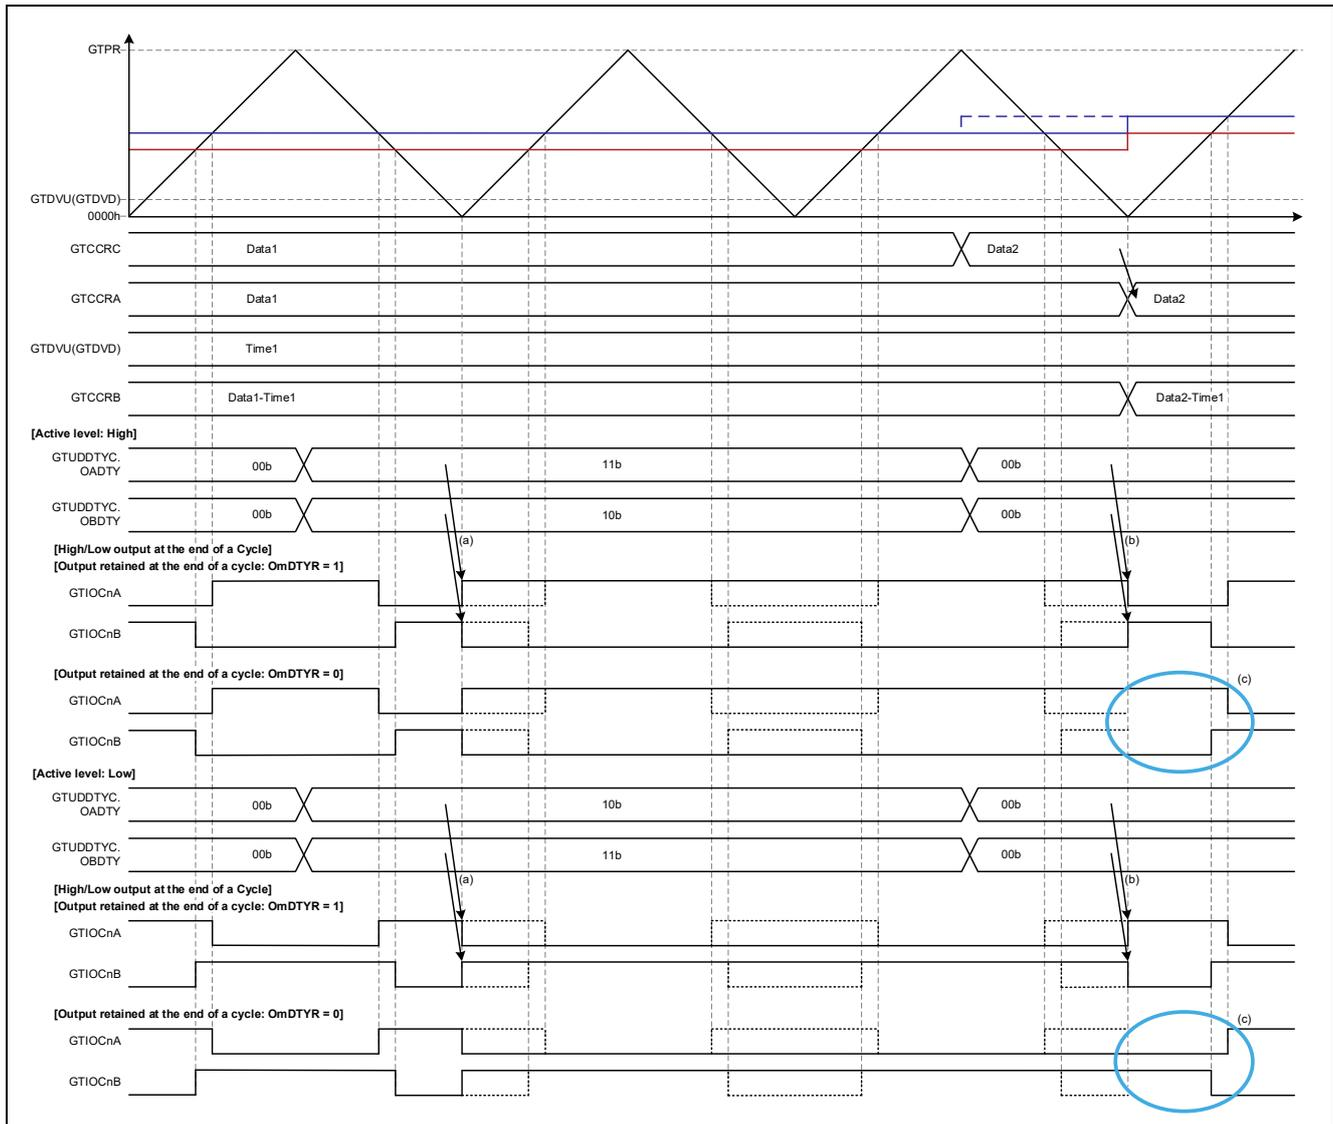
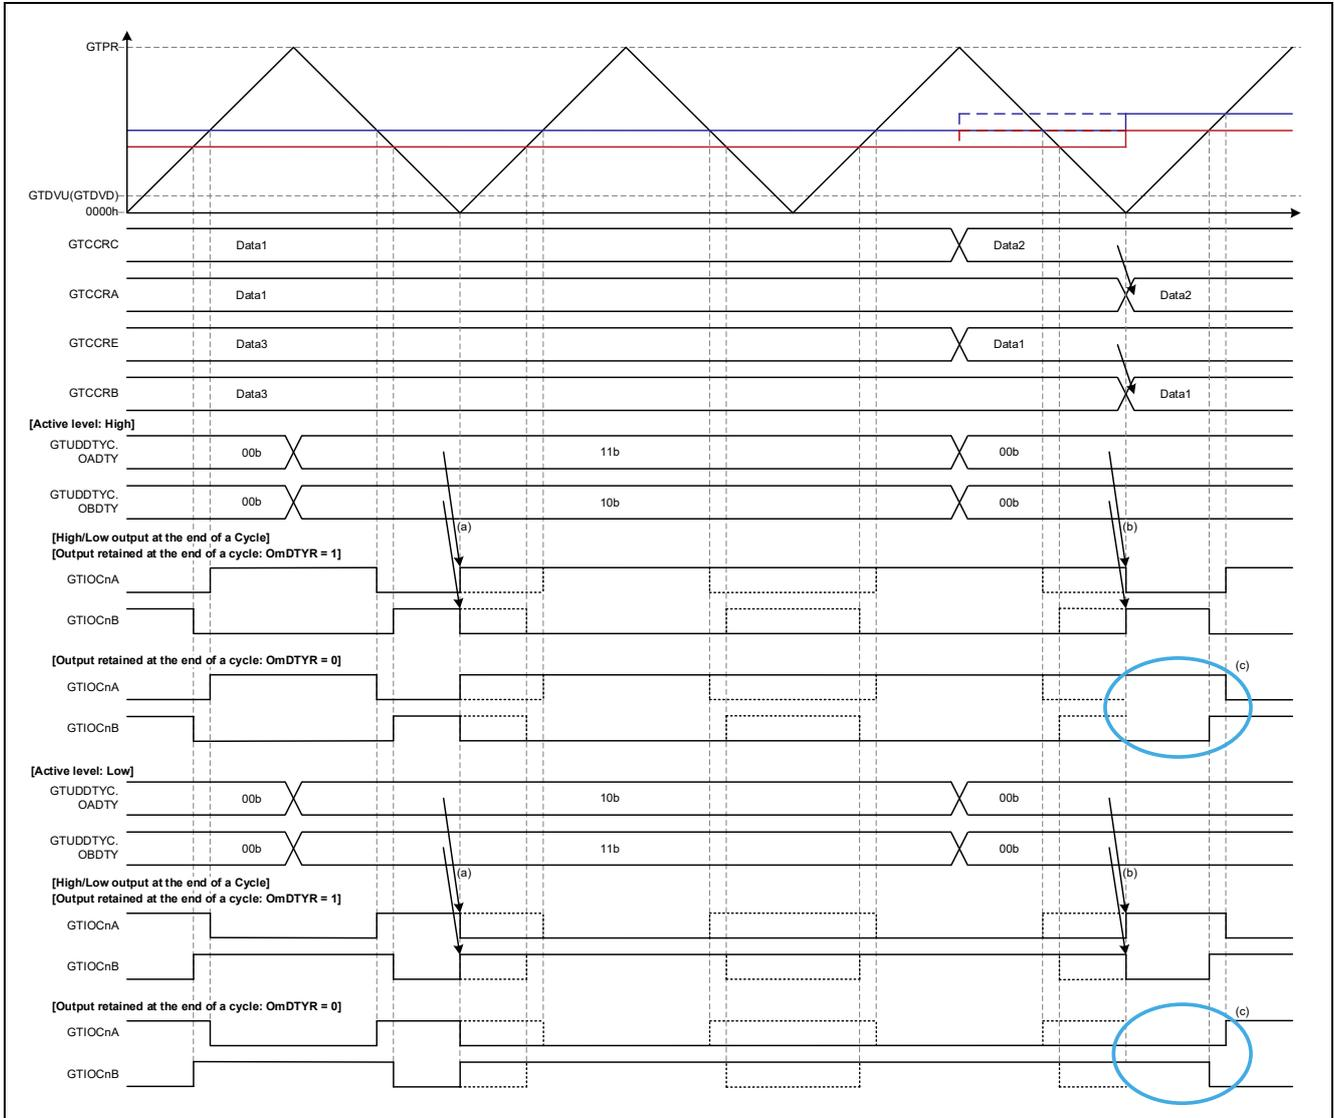
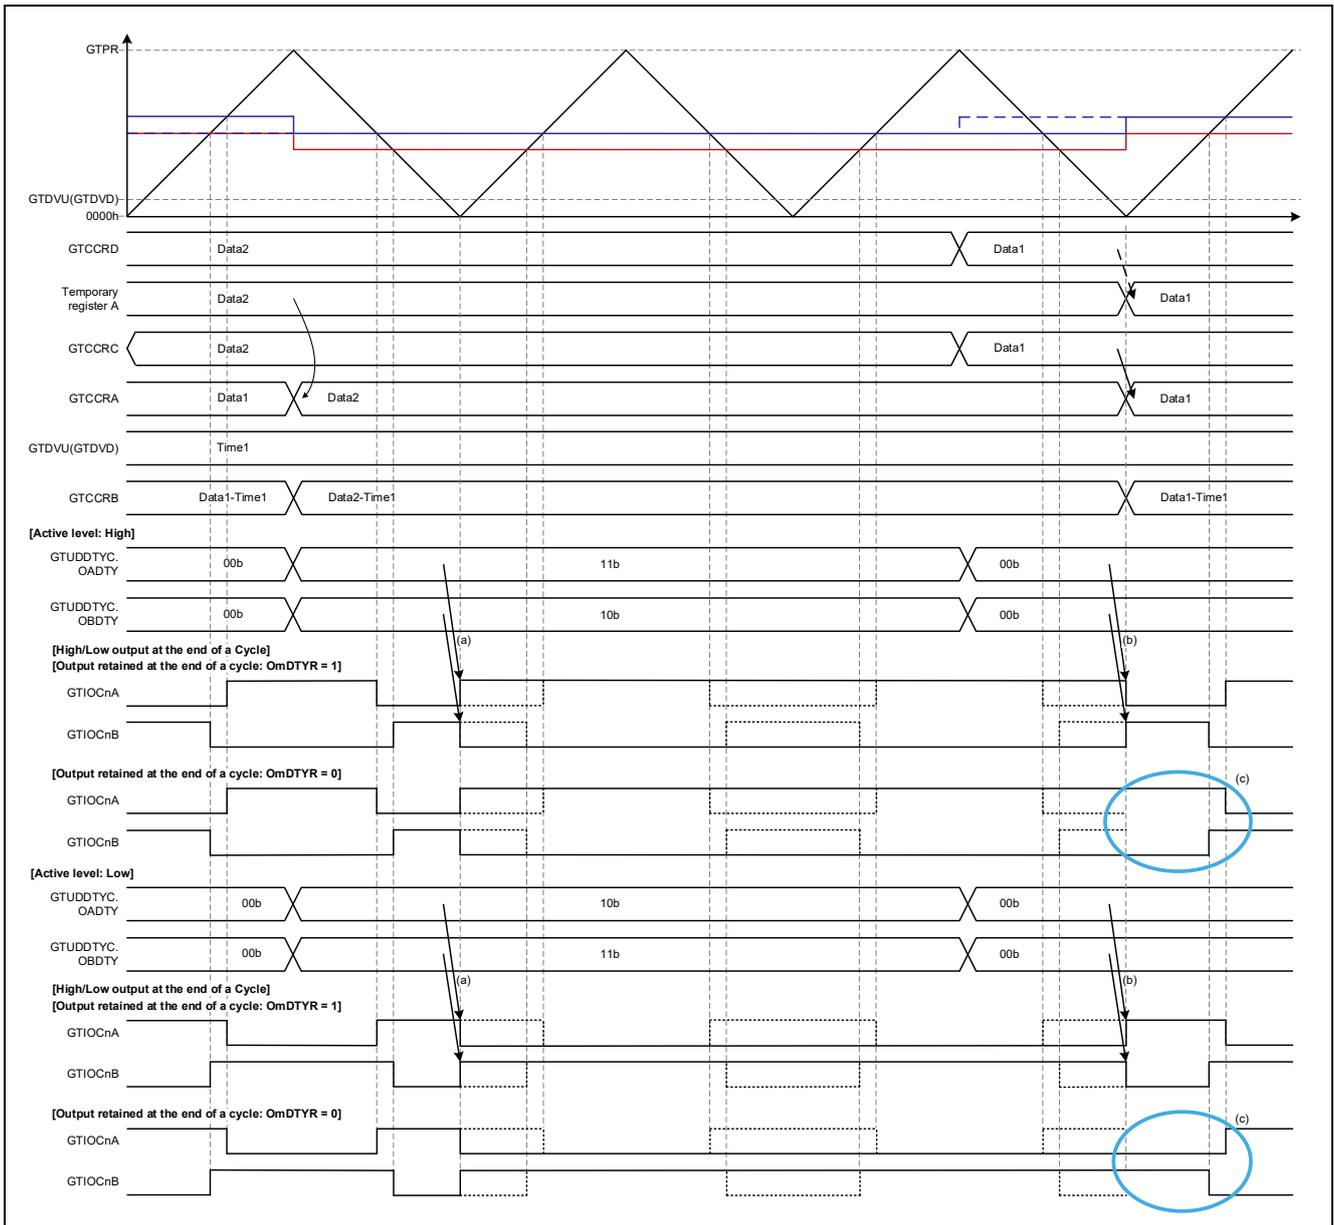
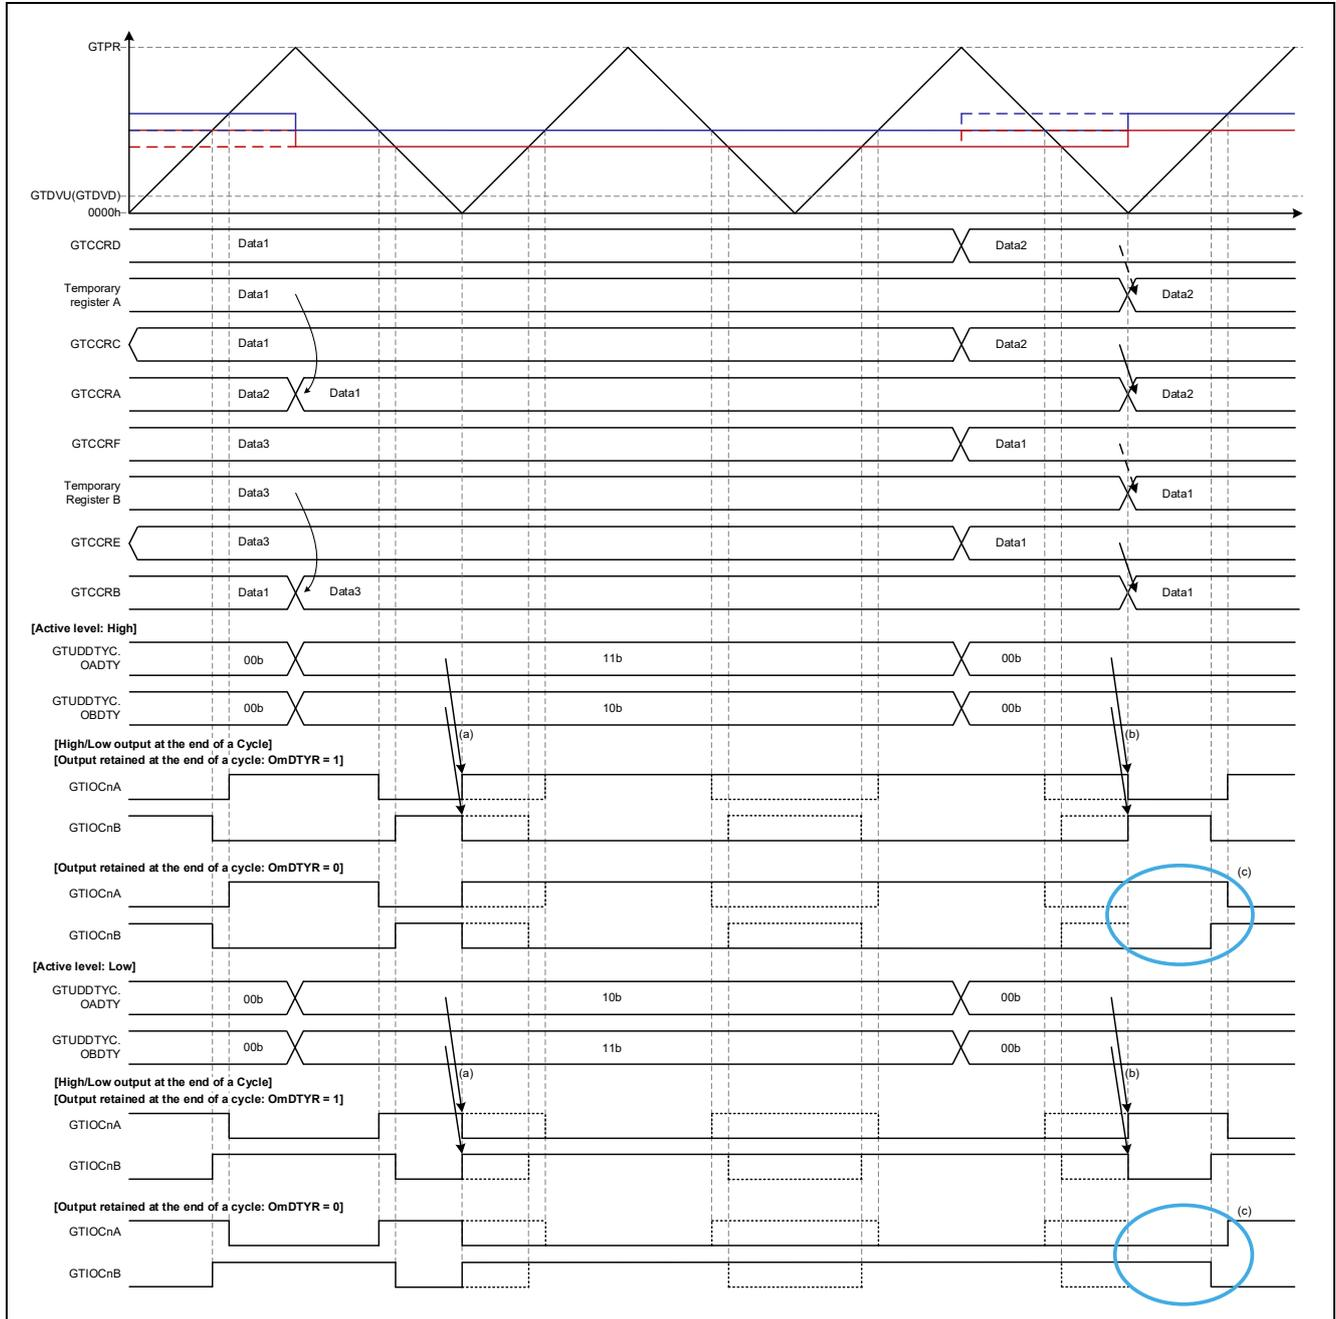

Figure 1.15 Triangle-Wave PWM Mode 1 Operation Example
Figure 1.16 Triangle-Wave PWM Mode 1 Operation Example
Figure 1.19 Triangle-Wave PWM Mode 3 Operation Example (Output Start: Trough, Automatic Dead Time Setting Function Enabled, Duty: 50% → 0%/100% → 50%)
Figure 1.20 Triangle-Wave PWM Mode 3 Operation Example
| Triangle-Wave PWM mode 1 | Trough | Figure 1.15 | Figure 1.15 | Figure 1.16 | Figure 1.16 |
| Triangle-Wave PWM mode 3 | Trough | Figure 1.19 | Figure 1.19 | Figure 1.20 | Figure 1.20 |
Figure 1.15 to Figure 1.20 illustrate the 0% and 100% duty cycle waveform output operation examples in each GPTW operating mode listed in Table 1.7.
- [Operation example 1] Figure 1.15, Triangle-Wave PWM Mode 1, Output Start: Trough, Automatic Dead Time Setting Function Enabled
- [Operation example 2] Figure 1.16, Triangle-Wave PWM Mode 1, Output Start: Trough, Automatic Dead Time Setting Function Disabled
- [Operation example 5] Figure 1.19, Triangle-Wave PWM Mode 3, Output Start: Trough, Automatic Dead Time Setting Function Enabled
- [Operation example 6] Figure 1.20, Triangle-Wave PWM Mode 3, Output Start: Trough, Automatic Dead Time Setting Function Disabled
Figure 1.15 shows an operation example with the automatic dead time setting function enabled in triangle-wave PWM mode 1.
Figure 1.16 shows an operation example with the automatic dead time setting function disabled in triangle-wave PWM mode 1. Except for the operation of the GTCCRB and GTCCRE registers, the operation is the same as that shown in Figure 1.15.
Figure 1.19 shows an operation example with the automatic dead time setting function enabled in triangle-wave PWM mode 3.
Figure 1.20 shows an operation example with the automatic dead time setting function disabled in triangle-wave PWM mode 3. Except for the operation of the GTCCRB and GTCCRE registers, the operation is the same as that shown in Figure 1.19.